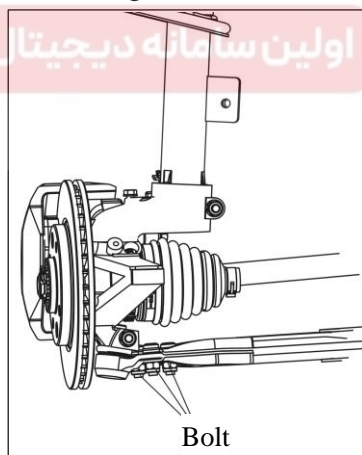

Figure 4-8 Dismantle Rocker Arm Ball Joint
- (5) Screw off three bolt 1 as shown in Figure 4-8, remove the ball joint of rocker arm assembly, and separate the rocker arm from the steering knuckle.